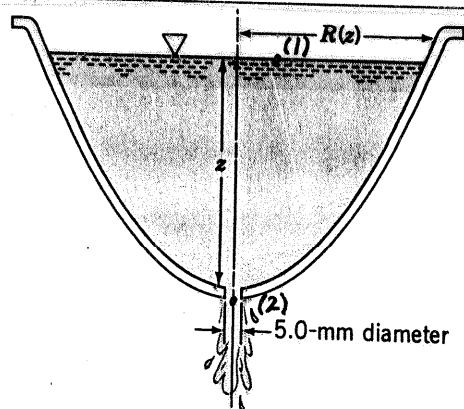

FIGURE P3.76
3.76 An ancient device for measuring time is shown in Fig. P3.76. The axisymmetric vessel is shaped so that the water level falls at a constant rate. Determine the shape of the vessel, $R = R(z)$, if the water level is to decrease at a rate of 0.10 m/hr and the drain hole is 5.0 mm in diameter. The device is to operate for 12 hr without needing refilling. Make a scale drawing of the shape of the vessel.